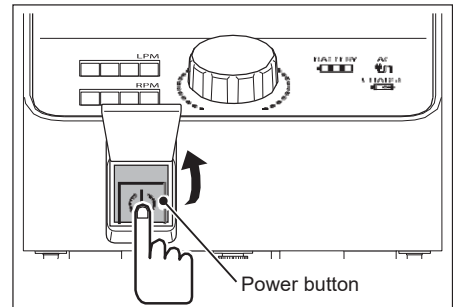

Figure 1-40
1. Press the power button. (Figure 1-40)